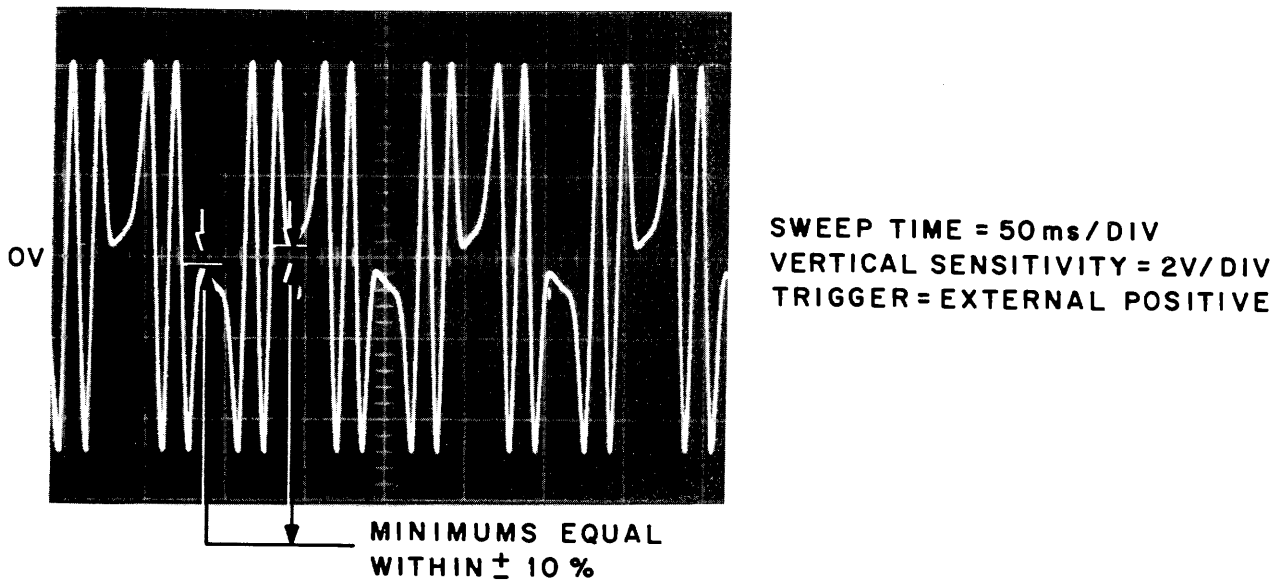

Figure 5-10 Position Offset Adjustment Waveform
22. Adjust potentiometer VO until the signal position minimums are equal within  $\pm 10\%$  of zero (Figure 5-10).